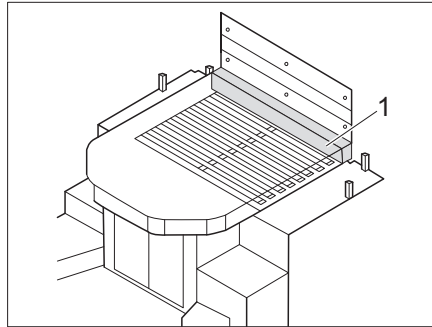

Fig. 174 Bed extension - variant 1
- Place additional mattress (Fig. 174,1) on the front side of the queen bed.